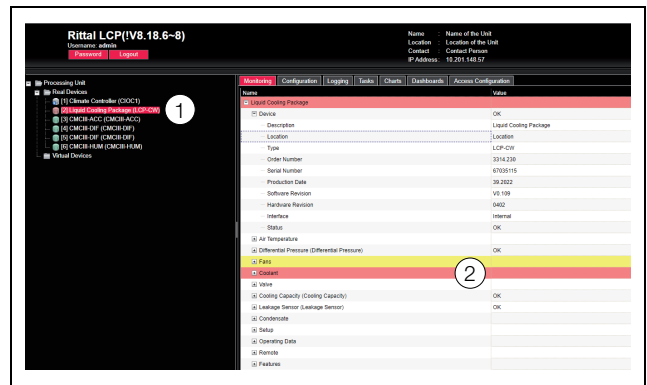

Fig. 120: Selecting multiple parameters
- Simply open the "Liquid Cooling Package" entry by clicking on the "plus" symbol in front of that entry (fig. 120, item 1).
- Position the mouse pointer at the end of the first column in the "Location" line (fig. 120, item 2).